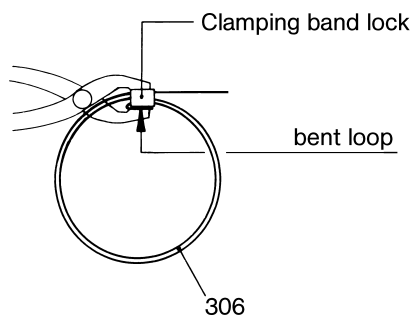

Figure 8: Press clamping band loop against clamping band lock.
- Mount cover sleeve (308) with screw driver, lift top with screw driver, run spray pipe of the oil can under the sleeve and fill the space in the joint with ALLWEILER special joint oil type B or oil ET 15 10 ISO 460 of Tribol Lubricants GmbH, Mönchengladbach, Germany. Lubricant quantities see table, Section 7.1.2.6 above. For the use of the pumps for foodstuffs with ALLWEILER special joint oil Type BL or oil 1810/460 of Messrs. Tribol Lubricants GmbH, Mönchengladbach, Germany
- Check whether bent loop of the clamping bands (306) rests against the clamping band lock. If not, press against by means of commercial flat pliers (please refer to Figure 8 below).